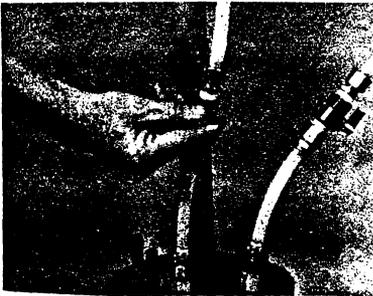

FIGURE 15
8.04 To start injecting compound into the load coil case, first open injection valve No. 4, then crack open vent valve No. 5 slightly to allow the compound to flow into the load coil case with less resistance. (See Figure 15)